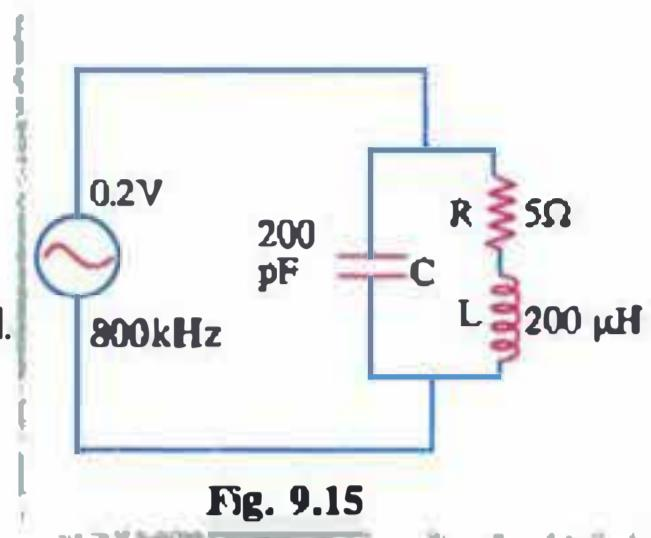

Fig. 9.15
**Solution.** The circuit is diagrammed in Fig. 9.15.